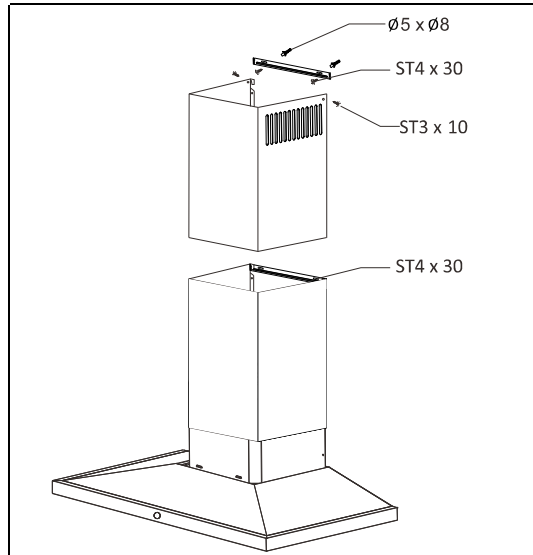

Fig. 9
- Fix the inner duct to mounting bracket using 2(two) ST3 x 10 screws provided (Fig. 9).